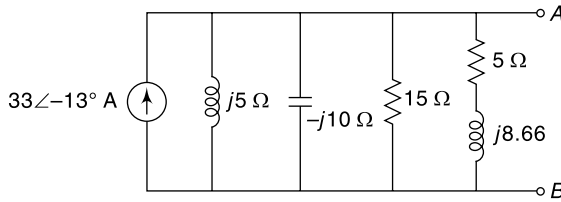

Fig. 6.5 Circuit of Ex. 6.5
6.5 Find the Thevenin's equivalent circuit of the network shown in Fig. 6.5.